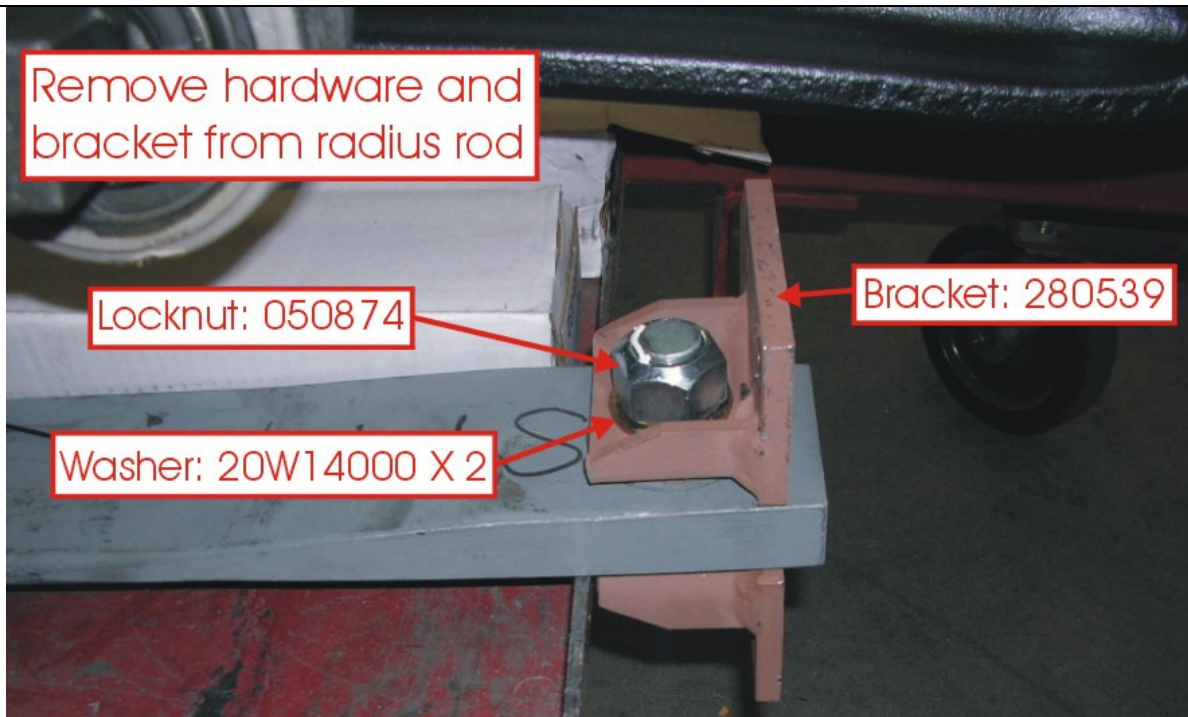

Figure 6: Radius rod hardware and bracket.
- e. Remove hardware from the radius rod mounting bracket. Bracket, washers and locknut may be discarded. Keep bolt for reuse. See Figure 6.
- f. Take new bracket (PN 280539) and install on radius rod reusing bolt, new washers (PN 20W14000) and new locknut (PN 050874). Torque hardware to 450 ft-lbs with Never-Seez. See Figure 6.